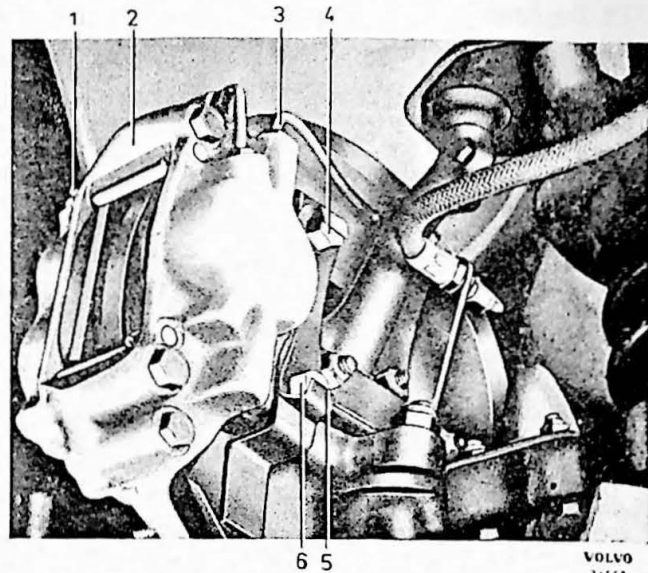
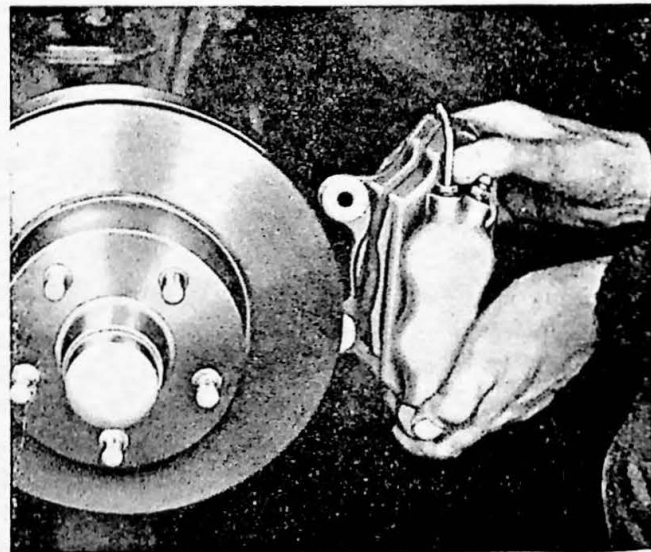

Fig. 7-11. Caliper, fitted
Fig. 7-12. Removing the caliper
3. Disconnect the brake line (3, Fig. 7-11) and plug the connection. Bend up the locking washer (5) and unscrew the attaching bolts (4 and 6). Lift off the caliper (2) complete, see Fig. 7-12.
Check that the contact surfaces of the caliper and retainer are clean and undamaged since it is of vital importance that the caliper takes up the correct position in relation to the brake disk. Fit the caliper see Fig. 7-11.